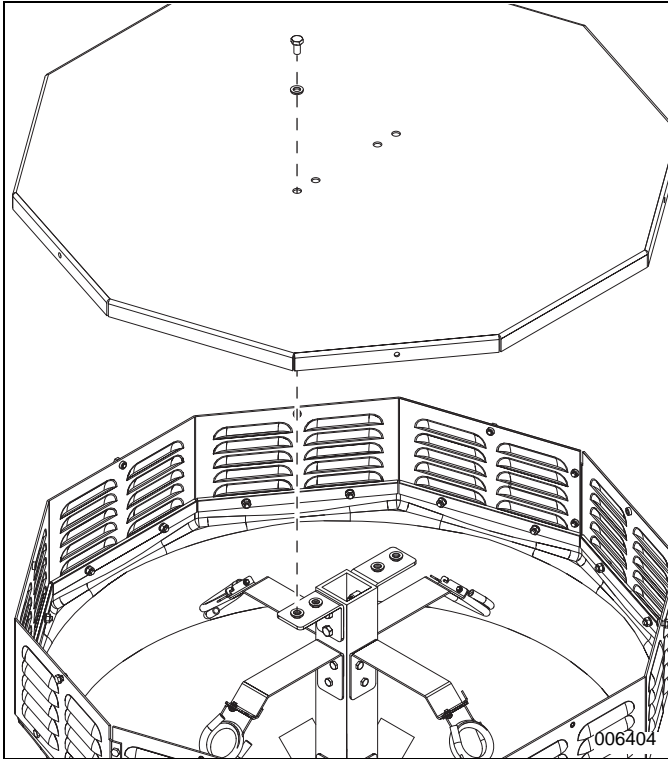

Figure 8. Lid Removal
- See **Figure 8**. Remove and retain hardware securing top of lid. Remove and retain lid.
- See **Figure 8**. Install lid using hardware retained in step 3, lubricating surfaces of rubber washers before installing. Tighten hardware to 19.7 ft-lb (26.7 Nm).
3. See Figure 8. On the light fixture, remove and retain hardware securing top of lid. Remove and retain lid.
- See Figure 8. Install lid using hardware retained in step 3, lubricating surfaces of rubber washers before installing. Tighten hardware to 19.7 ft-lb (26.7 Nm).